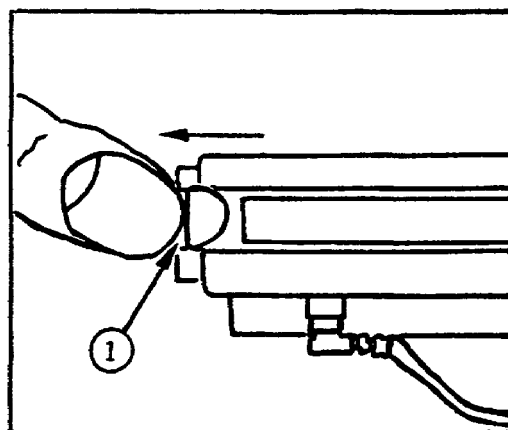

Figure 1-14. Opening Camera Back.
a. To open the camera back, pull the camera case latch (right corner) 1 out and the camera back will pop open (fig 1-14).